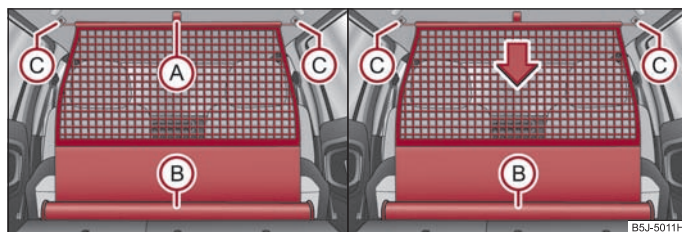

Fig. 66 Pull out the net partition / roll up
- Pull the net partition at the plate (A) out of the housing (B) ⇒ fig. 66.
- First of all insert the cross rod into the mount (C) on one side.
- Pull the cross rod back slightly, first on the one side then on the other side and take the cross rod out of the mounts (C) ⇒ fig. 66.
- **Hold** the cross rod in such a way that the net partition can roll up slowly and without damage into housing (B).